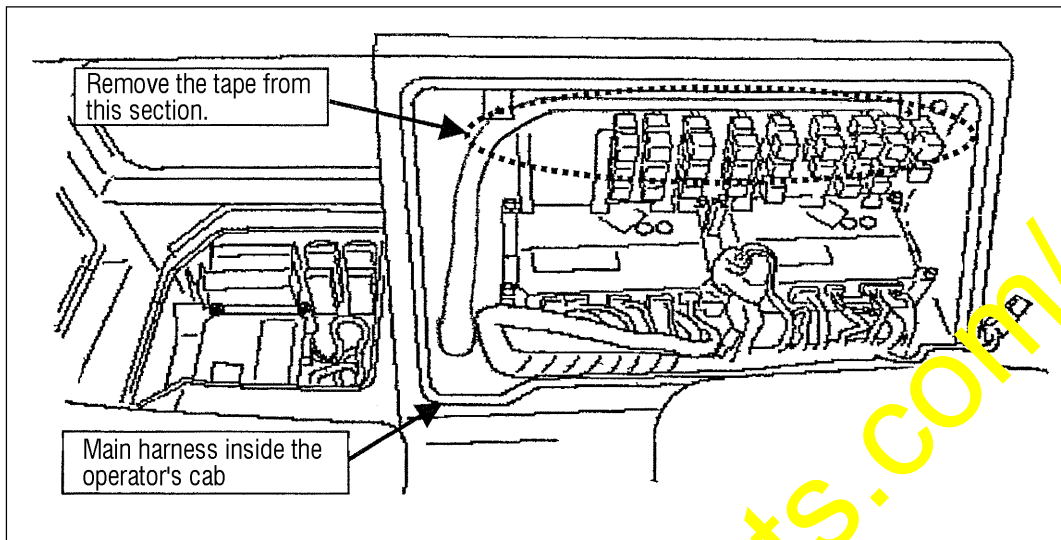
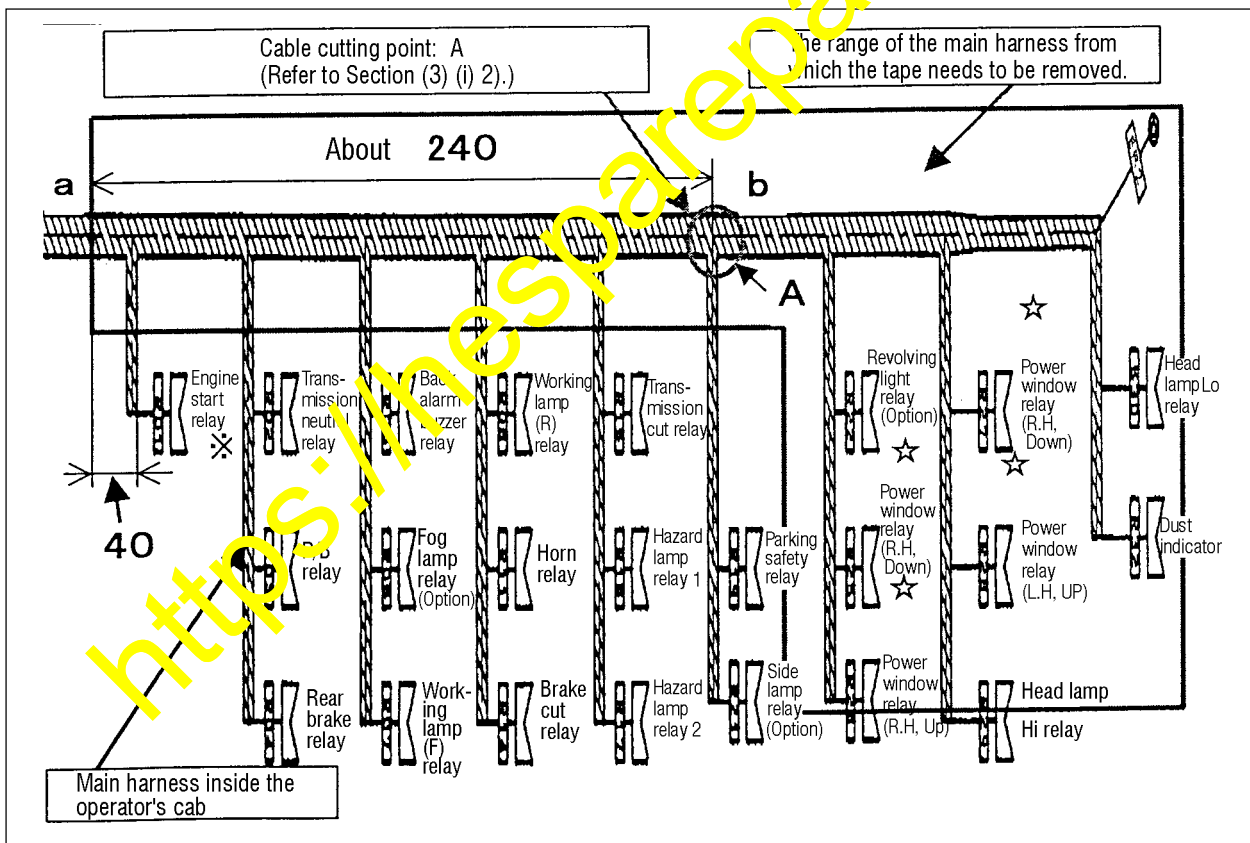

Fig. 12
Fig. 13
(2) Modification procedure for the main harness inside the operator's cab
- (i) Remove the tapes from the main harness inside the operator's cab at the sections connecting to the relays. (Refer to Fig. 12 and Fig. 13.)
(R25, R26, R27 and R28 : sections marked ☆ in Fig. 13 to the new connector (PWJ)
- 2) Cut the separated leads at a point near the section "A" (Note 6) (Refer to Fig. 13.) once again at equal lengths (The distance a-b in Fig. 13: (240 mm)) (Note 5) and remove the insulation covering by 7 mm.